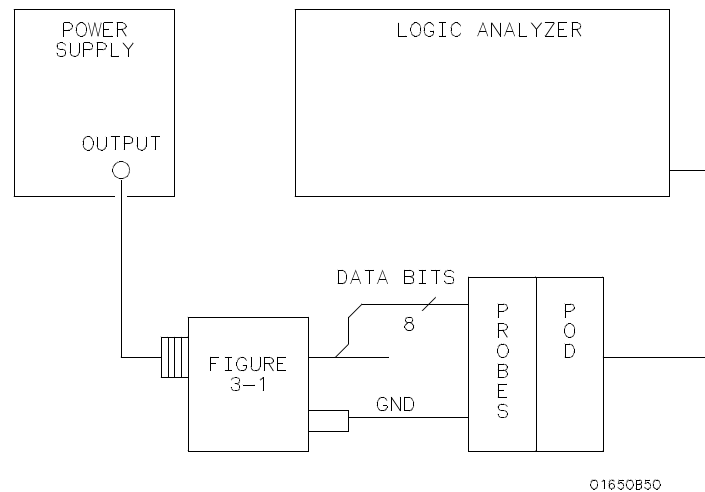

Figure 3-35. Threshold Accuracy Test Setup
1. Connect the test equipment as in figure 3-35.